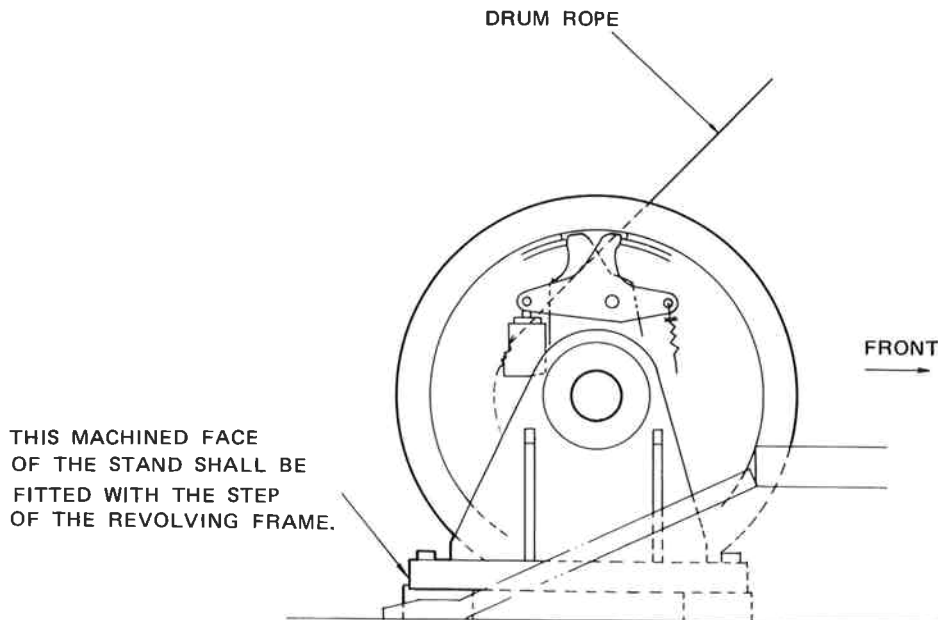

Fig. 6 Installation of the Clutch and Third Drum Assembly
- 2) Install O-ring (25) on the end face of the reducer. Using a lifting device of suitable capacity, insert reducer (4) with the third drum motor on it, onto drumshaft (5).
- 3) Install retainer (8) on reducer (4) with capscrew (30). The tightening torque of capscrew (30) should be 10.5~12.9 kgf·m.
- 4) Using a lifting device of suitable capacity, position the third winch assembly on the revolving frame so that the rear end faces of the right and left stands contact the machined step of the revolving frame (See Fig. 6).
- 5) Tighten capscrews (28), 4 each for the right and left stands, alternately to 85~105 kgf·m to secure the right and left stands to the revolving frame.
- 7) Install swivel joint (17) on shaft (5).